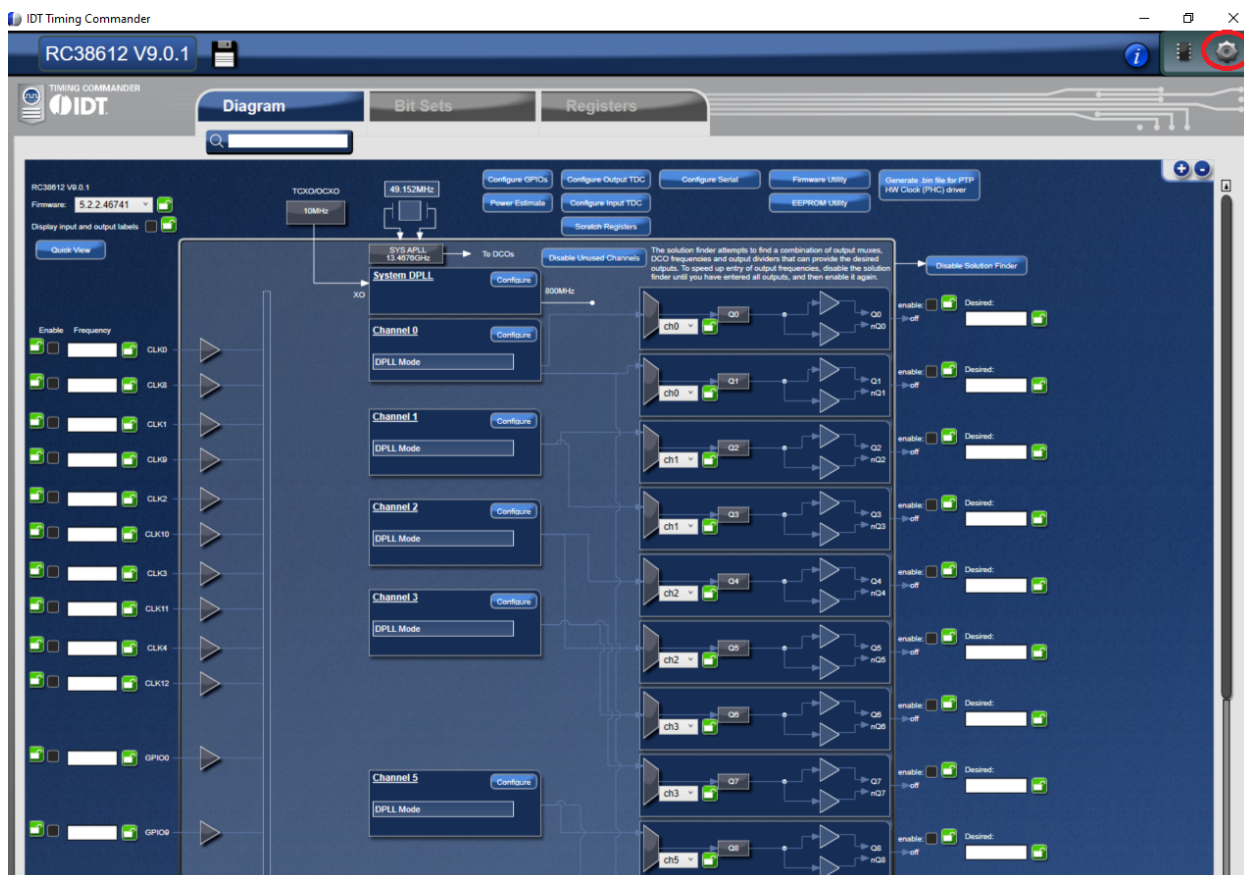
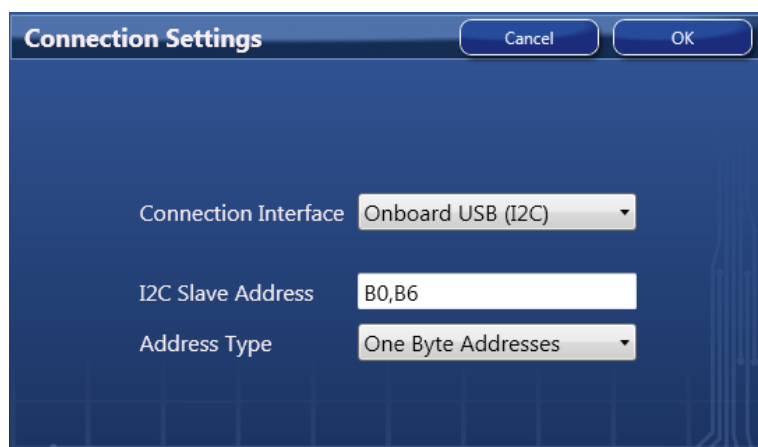

Figure 9. Timing Commander GUI with a Settings File Opened
Figure 10. Setting I2C for Connecting the Board with GUI
By using FTDI dongle, we can connect to a customer board and use the Timing Commander GUI just like working on a ClockMatrix evaluation board. When using the FTDI dongle to connect to a customer board, in Timing Commander "Connection Settings" window, "On-board USB (SPI)" is selected in Connection Interface box (see Figure 10), same as connecting to a Renesas evaluation board.
4. The GUI window with the RC38612 block diagram will open for configurations; or if “Open Settings File” is selected in Step 5 above, you will be prompted to browse and select an existing .tcs file and the personality file. When the configuration file is open, all configured values will be displayed as in Figure 9.
5. In order to connect the board with Timing Commander (PC), click the button (red circle) at the up-right corner of the GUI to set up the communication protocols (see Figure 9). After I2C and one-byte addressing are selected, click OK to close the window (see Figure 10).